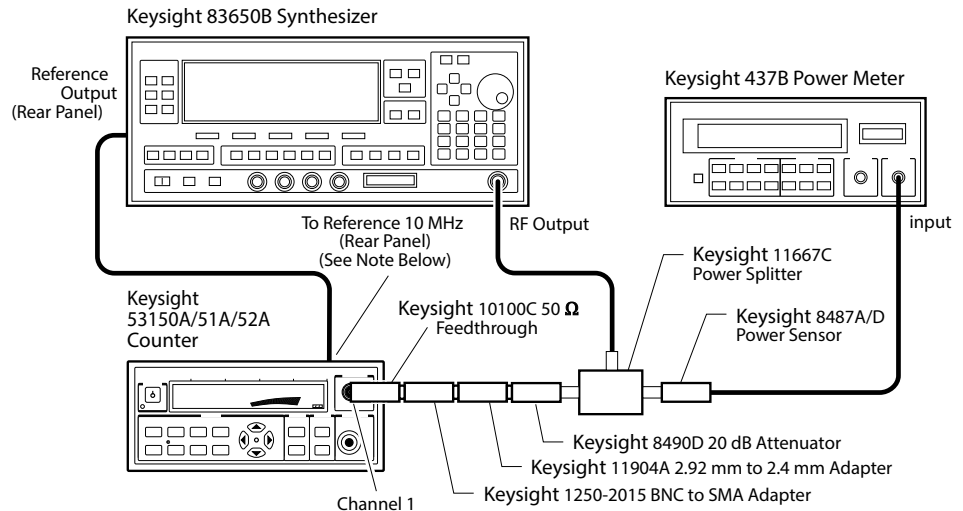

Figure 1-4 50 MHz to 125 MHz Frequency Sensitivity Test Setup
- 1 Connect an Keysight 10100C 50 Ω Feedthrough Terminator to the **CHANNEL 1** input connector on the Counter's front panel (refer to Figure 1-4 for steps 1 through 9).